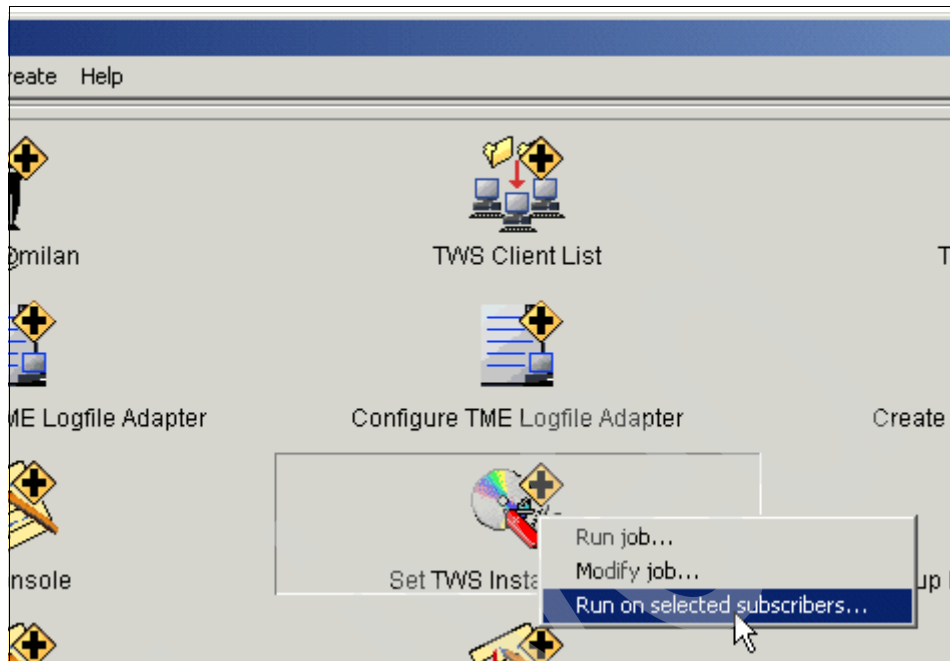

Figure 8-6 Running Set TWS Install Options on user-specified endpoints
4. Right-click the Set TWS Install Options icon and select **Run on selected subscribers...** as shown in Figure 8-6 on page 346.